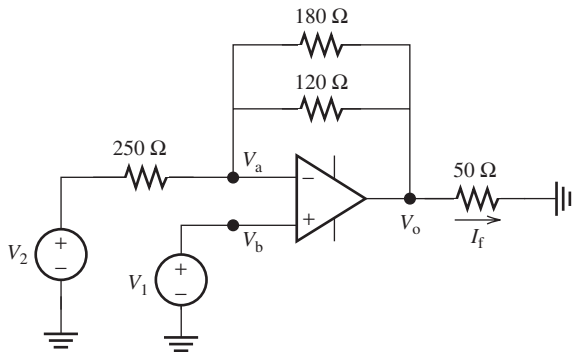

FIGURE P8.75 Circuit for Problem 8.75.
8.75 (B)* For the circuit shown in Figure P8.75, the input voltages are $V_1 = 15\text{ V}$ and $V_2 = 10\text{ V}$. Determine the current, I_f , in the figure.